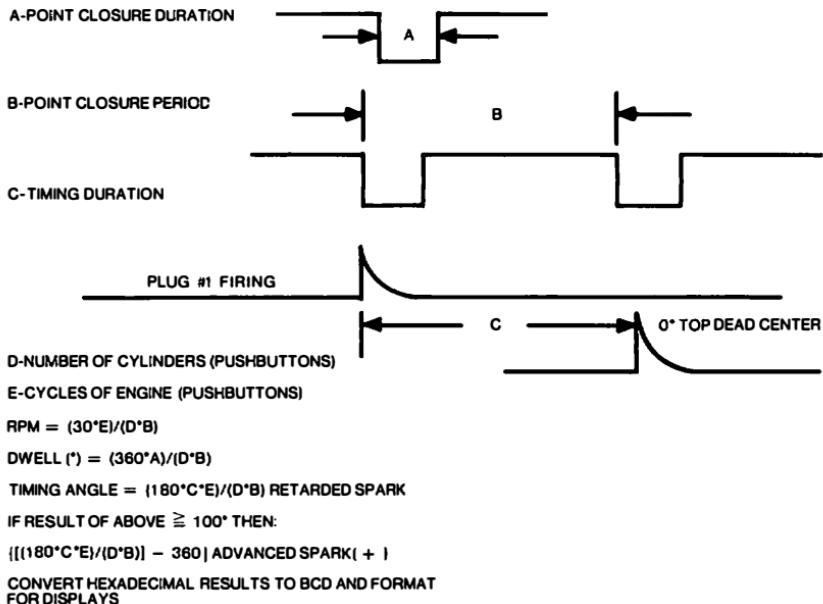

Fig. 9-6. Automobile engine signal measurements and calculations.
The 7476 JK flip/flop output at Q will provide a positive going pulse whose width (C) is the timing duration (Figs. 9-6 and 9-10). Recall that the timing duration is simply the difference in time between the plug No. 1 firing and 0° TDC signals. When plug No. 1 fires, the flip-flop is clocked and its normally low output goes high until the 0° TDC signal clears the flip/flop and causes the output at Q to go low. This circuit assumes negative going plug No. 1 and 0° TDC signals are obtained from the respective signal conditioning circuits. To enter the timing duration signal (C) into the 6801 timer at P20 (pin 8), you will first enable its 3-state buffer by writing a "1" to P22 at address 0003. At the same time, the P23 bit at address 0003 must contain a "0" such that the points signal 3-state buffer is not simultaneously enabled. It is assumed that P22 and P23 have already been configured as output data lines via the port 2 data direction register at address 0001. To measure the timing duration (C), you will use the pulse width measurement mode of the 6801 timer. The timer will be configured to generate an interrupt when a low-to-high transition is detected on P20 (pin 8), indicating that plug No. 1 has fired. The interrupt service routine will store the present counter contents, then reconfigure the timer to recognize a subsequent high-to-low transition at P20 (pin 8), indicating piston No. 1 is at 0° TDC. When this transition is detected, the timing duration (C) is determined by taking the difference between the counter contents at this time and the previously stored value. The timing duration value (C) is then stored for the timing angle calculation and its 3-state buffer is disabled by writing a "0" to P22. Next, you will write a "1" to P23 to enable the points signal three-state buffer. The point closure period (B) can then be measured as